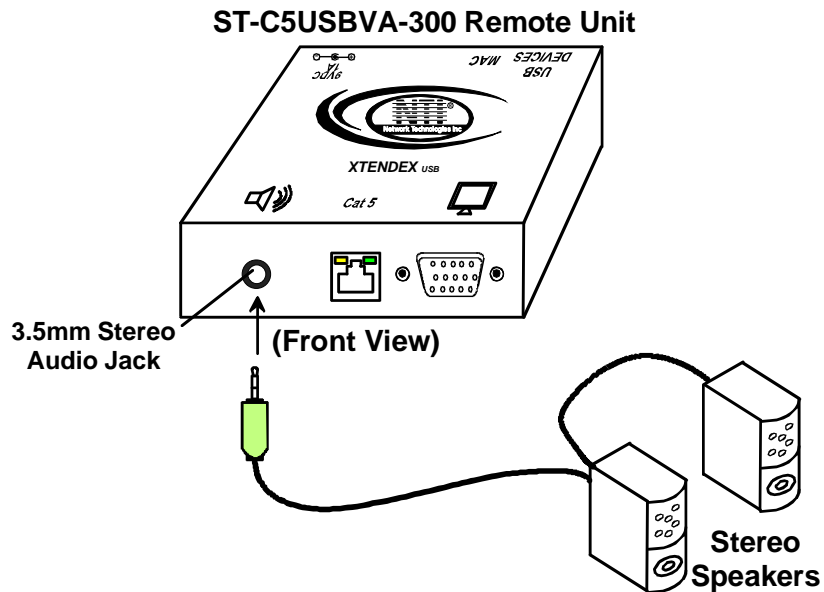

Figure 7- Connect remote self-powered speakers to Remote Unit
4. If the Remote Unit has audio support (ST-C5USBVA-300), connect the cable from the remote self-powered stereo speakers to the 3.5mm stereo audio jack on the Remote Unit. (See Fig. 7)